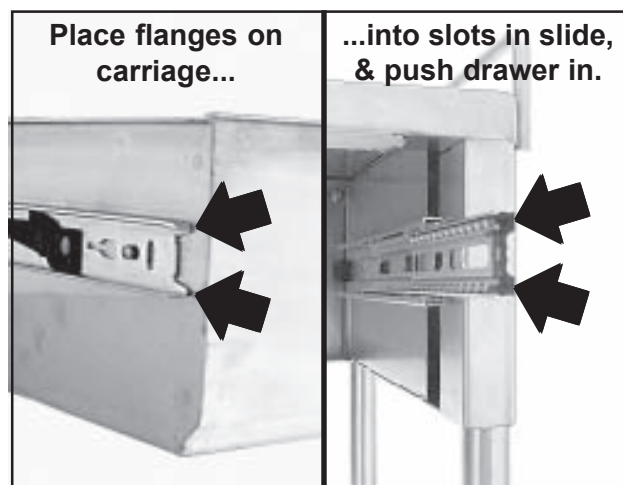

Figure 5. Installing Drawer
4. To replace the drawer into the table, place the flanges on the right and left drawer carriages (Figure 5) into the slots above and below the ball-bearings on the slides, and push the drawer in.